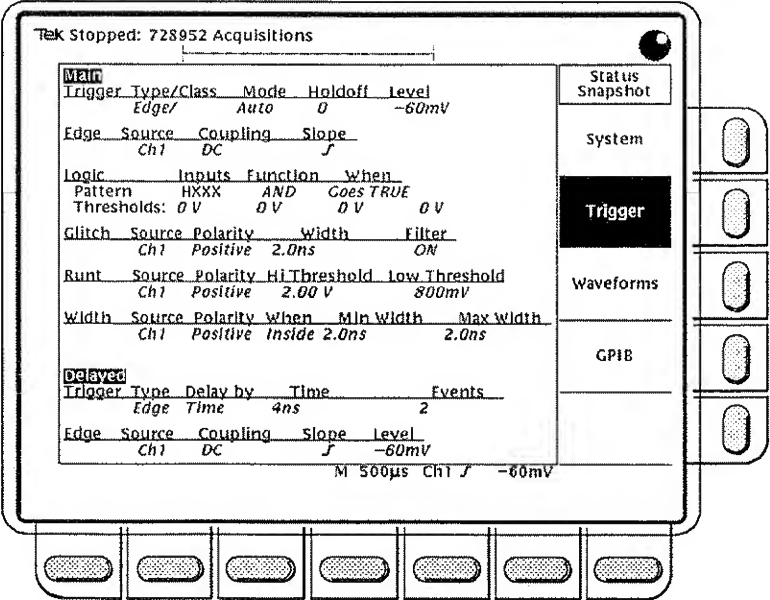

Figure 3-65: Status Menu – Trigger
- ☐ **Step 3:** Select **Trigger** from the menu to display information about the parameters of the various triggers (Figure 3-65).